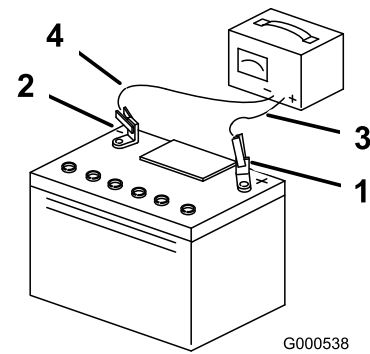

Figure 35
- When the battery is fully charged, unplug the charger from the electrical outlet, then disconnect the charger leads from the battery posts (Figure 35).